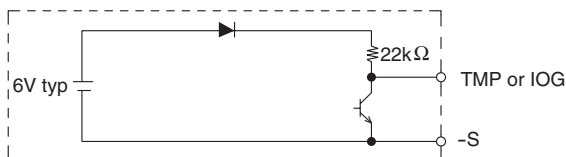

Fig.4.1 TMP, IOG circuit
■ When overheat is detected, thermal detection signal (TMP) turns "L" from "H". TMP circuit is designed as shown in Fig.4.1, and specification is shown as in Table 4.1.
IOG circuit is designed as shown in Fig.4.1 and specification is shown in Table 4.1.